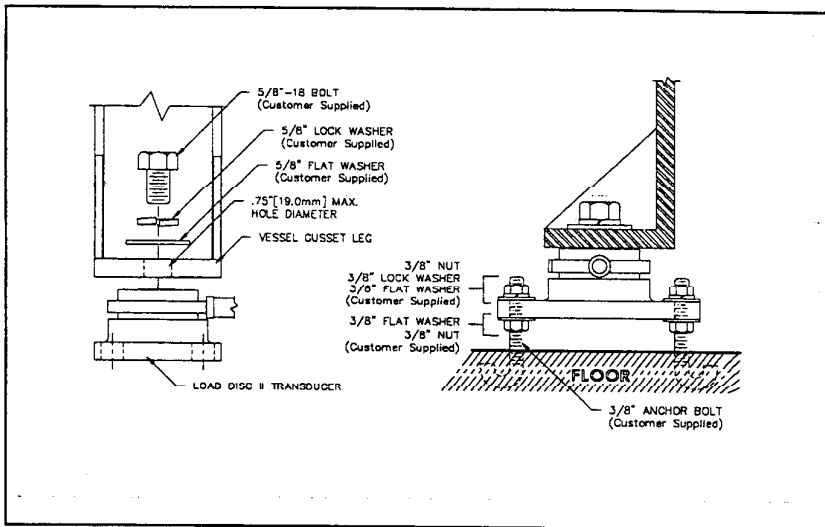

Figure 2-2. Load Disc II Transducer with No Hardware Kit.
This Load Disc II transducer configuration does not have a hardware kit. The transducer bolts to a vessel gusset (Figure 2-2) or a vessel leg that has a flat plate welded to it. The customer must supply a bolt (ASTM-A325 or stronger), lock washer, and flat washer to secure the transducer to the leg or gusset. 25K lbs and lower Load Disc II transducers use 5/8"-18 bolts. 35K lbs and higher transducers use 1"-12 bolts. The depth of the tapped hole on top of the transducer is 0.3 inch (7.6 mm) for 25K lbs and lower transducers. Hole depth for 35K lbs and higher transducers is 0.62 inch
4. Bolt the Load Disc II transducer to the leg or gusset with the bolt and lock washer (Figure 2-2). Follow Steps 1 - 4 to install all of the transducers to legs or gussets.